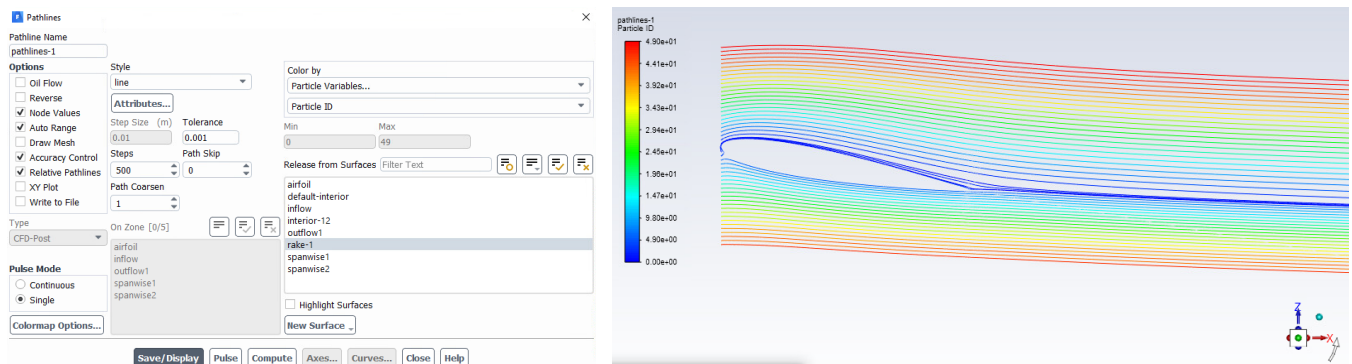

Figure 37. Pathline settings (left image), and Pathline contour (right image)
6.3.5. Under the “Release from Surfaces”, choose the rake that you just created. If needed, change the “Path Skip” to 1 or higher. This will coarsen the pathlines by ignoring some of the path lines. Keep the parameters as default, following Figure 37 (left image). The pathline should look like Figure 37 (right image). The pathlines can show wake in the flow and separation of the boundary layer from the airfoil.